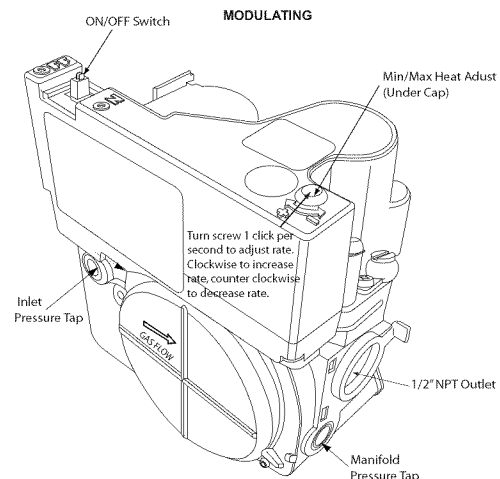

Fig. 15 - Gas Valve
3. Attach manometer to manifold pressure tap on gas valve. (see Fig. 15.)